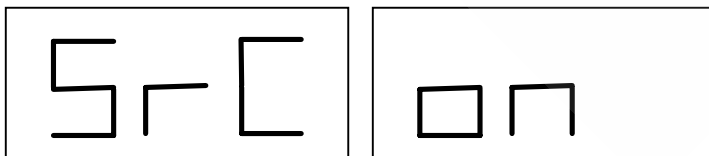

Fig. F3.11 - “Balancing planes search enabled” message
1. Select the balancing planes search mode by pressing [P2]  until the writing SrC is viewed on the left display as shown in figure F3.11.